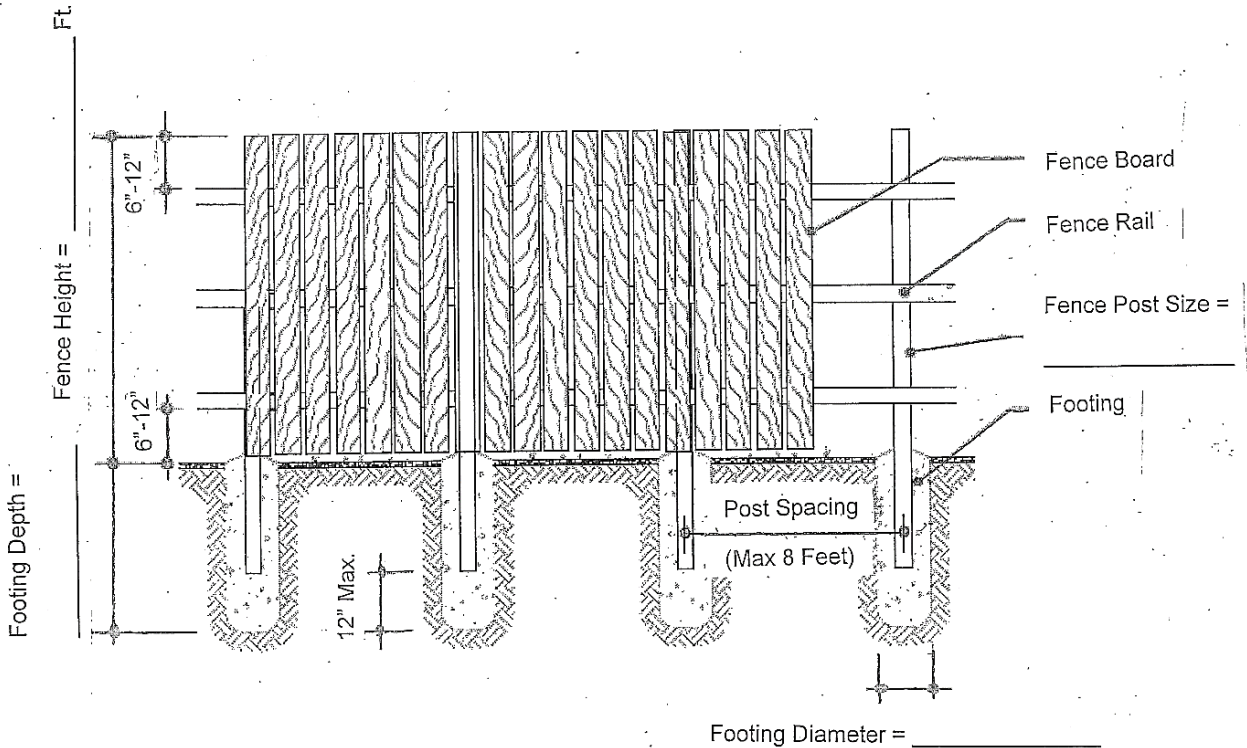

Figure 1
- The detail in these plans will help you determine how big the footings, post, and deck rails need to be and how far apart they can be spaced (See Table 1 and Figure 1).
Note: The drawings contained in this document may show a typical solid fence with vertical fence boards; however, any type or configuration of fence board can be used. See Figure 1 on page 5.